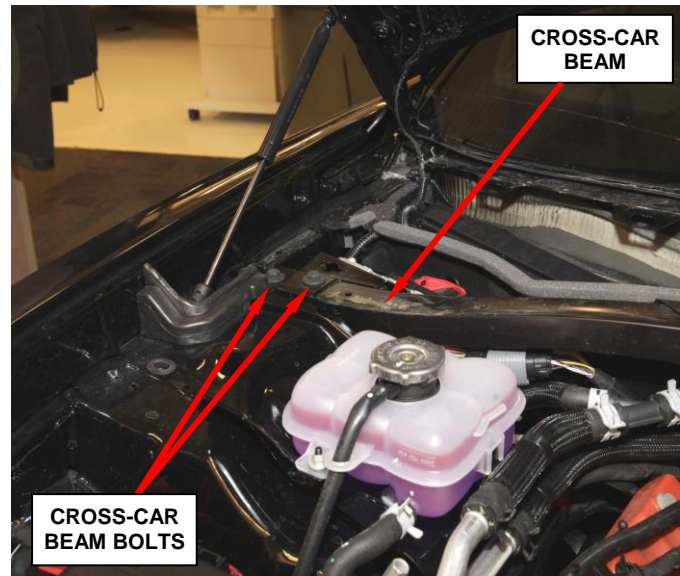

Figure 7 – Cross-Car Beam Bolts
- e. Remove and save the right and left side cross-car beam mounting bolts (Figure 7).
- f. Remove and save the cross-car beam (Figure 7).